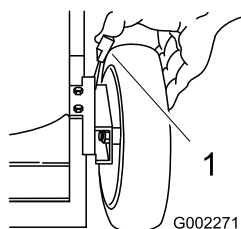

Figure 25
1. Pull the wheel height adjustment lever toward the wheel (Figure 25) and move it to the desired setting.